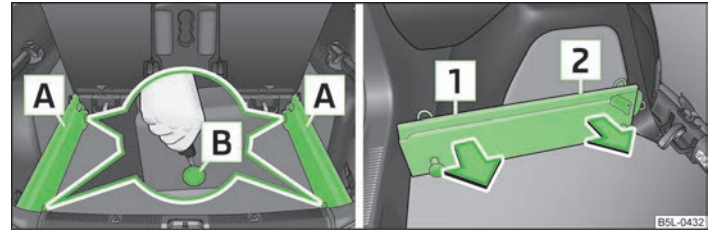

Fig. 62 Slacken check points/remove carrier rails
- Slacken the check points **B** » Fig. 62 on the carrier rails using the vehicle key or a flat screwdriver.